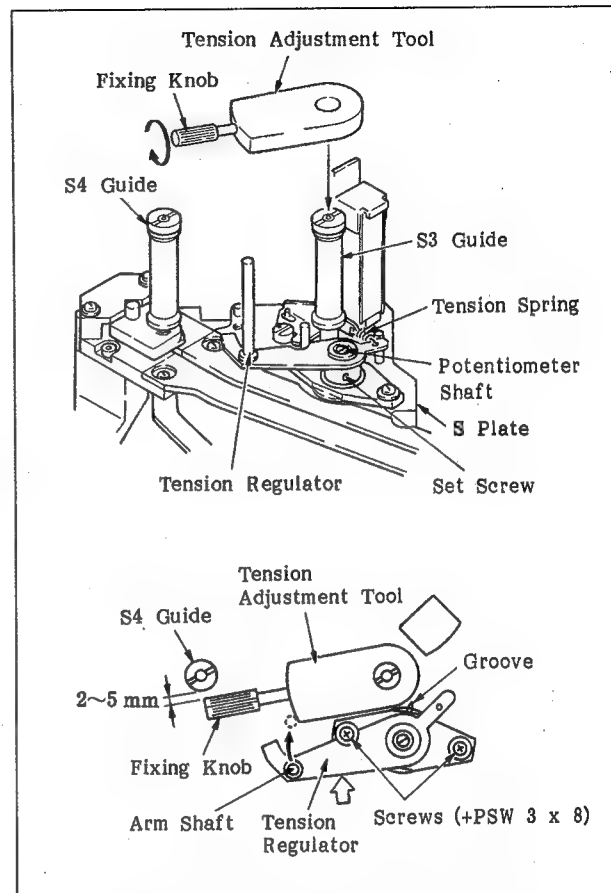

Fig. 9-6-1 Tape Tension Adjustment
3. Press the **F3** (C), the **4**, the **SET**, the **F6** (F), the **2**, the **SET**, and the **<** keys in that order to set the unit in threading condition without threading a cassette tape.
4. Loosen the two set screws (+PSW 3 x 8) that hold the tension regulator by one or two turns. Match the groove of the tension regulator to the groove of the S plate, as shown in Fig. 9-6-1 and then tighten the set screws.
5. Put the tension adjustment tool over the upper flange of the guide roller and tighten the fixing knob while pushing the tool down. (Fig. 9-6-1)
8. Rotate the potentiometer shaft clockwise slowly with a screwdriver and find the point where the indicated value of the digital voltmeter changes from the positive value to the negative value. Then obtain the central value (V) from the maximum value and the minimum value.
9. Push the position indicated by the arrow to push the arm shaft of the tension regulator against the tension adjustment tool, as shown in the top view of Fig. 9-6-1. Adjust by rotating the potentiometer shaft so that the indicated value of the digital voltmeter satisfies the following specification.
**Standard: Central value (V)  $\pm 50\text{mV}$**
- Standard: Central value (V)  $\pm 150\text{mV}$**
14. Loosen the two set screws (+PSW 3 x 8) that hold the tension regulator by one or two turns and then push the arm shaft of the tension regulator against the tension adjustment tool. (Fig. 9-6-1)
15. Adjust so that the indicated value of the digital voltmeter satisfies the following specification by inserting the screwdriver in the groove, shown in the top view of Fig. 9-6-1, and rotating it. If the adjustment cannot be made, repeat Steps 4 through 15.
17. Press the **[F5]** (E), **[F2]** (B) and **[SET]** keys on the control panel in that order to indicate the tension regulator output on the display of the control panel.
19. Push the arm shaft of the tension regulator against the tension adjustment tool, as shown in the top view of Fig. 9-6-1.